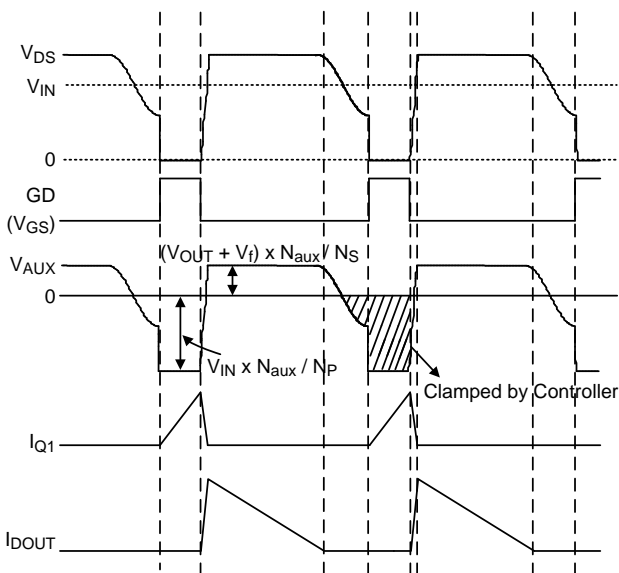

Figure 3. Key Waveforms of a Flyback Converter
The RT7306 needs no shunt regulator and opto-coupler at the secondary side to achieve the output current regulation. Figure 3 shows several key waveforms of a conventional flyback converter in Quasi-Resonant (QR) mode, in which  $V_{AUX}$  is the voltage on the auxiliary winding of the transformer.